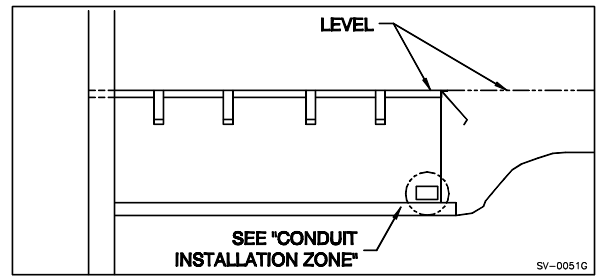
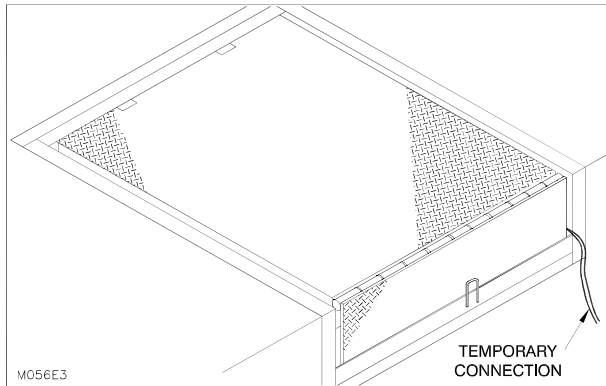

Figure 44: Conduits Required
Figure 47: Accessible Temporary Wire
1. ___ Provide holes in the side pan of the dock leveler for the electrical and/or hydraulic conduits. (See “Figure 44: Conduits Required” on page 36)
8. ___ Prior to pouring the concrete, re-examine the front and rear of the unit to ensure the top of the unit has remained level and in the desire final position. Once the concrete has been poured around the dock leveler, repositioning the dock leveler is very difficult and expensive. See “Figure 44: Conduits Required” on page 36. Ensure the temporary wire on hydraulic units is easily accessible. See “Figure 47: Accessible Temporary Wire” on page 37.
9. ___ Pour concrete to finished floor level and flush with the curb angle on all three (3) sides in **two stages**.
1. Raise the dock leveler by connecting the temporary cord from power supply to the temporary wire supplied with the dock leveler. (See "Figure 47: Accessible Temporary Wire" on page 37)